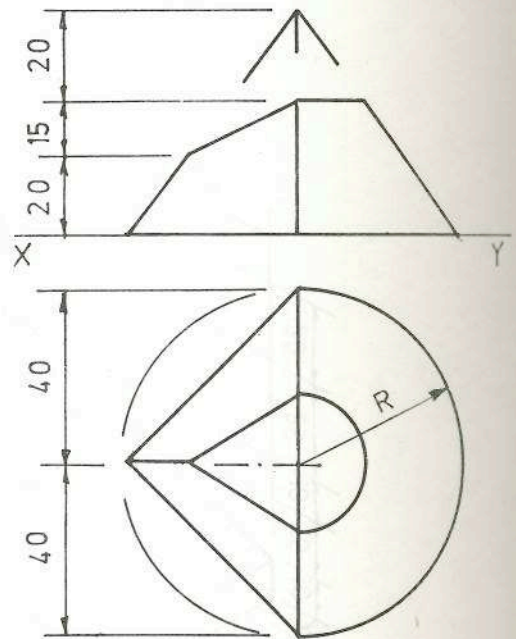

Fig. 3
- (b) The elevation and plan of a solid are given in Fig. 3. Draw the elevation and plan and draw the development of all the surfaces of the solid.